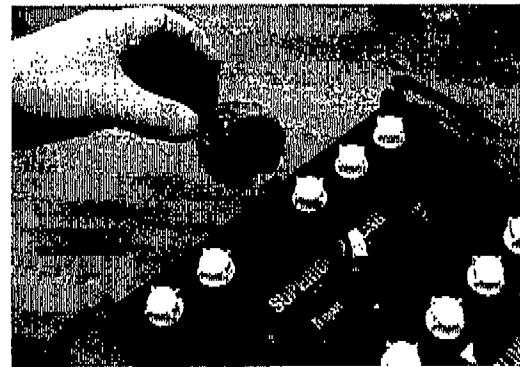

FIG. 40
3. After charging batteries, measure the specific gravity in each battery cell using a hydrometer (Figure 40). This will determine the charge level and condition of the batteries. If one or more of the battery cells test lower than the other battery cell (0.050 or more), the cell is damaged, shortened, or is about to fail.